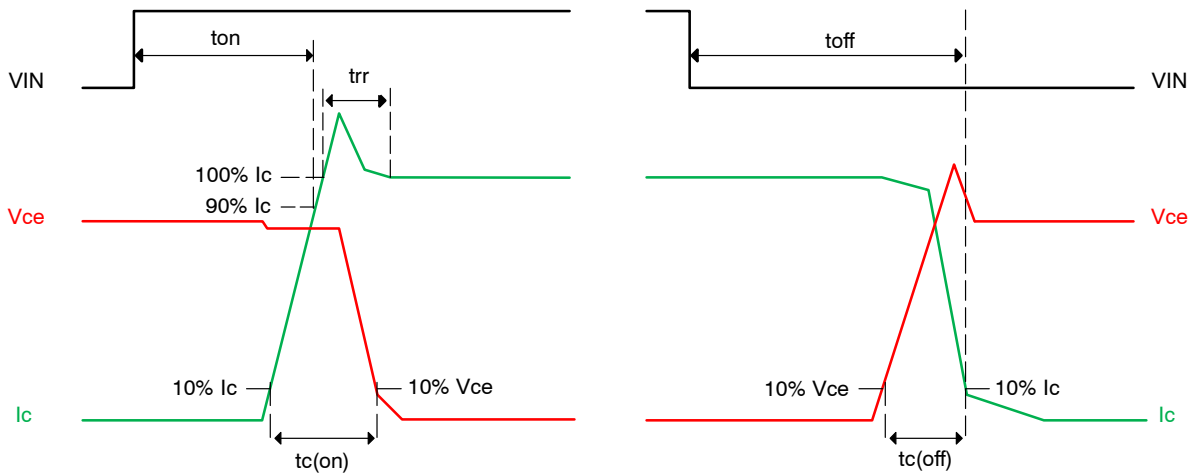

Figure 3. Switching Time Definitions
- ton and toff include the propagation delay of the internal drive IC. tc(on) and tc(off) are the switching times of IGBT under the given gate-driving condition internally. For the detailed information, please see Figure 3.